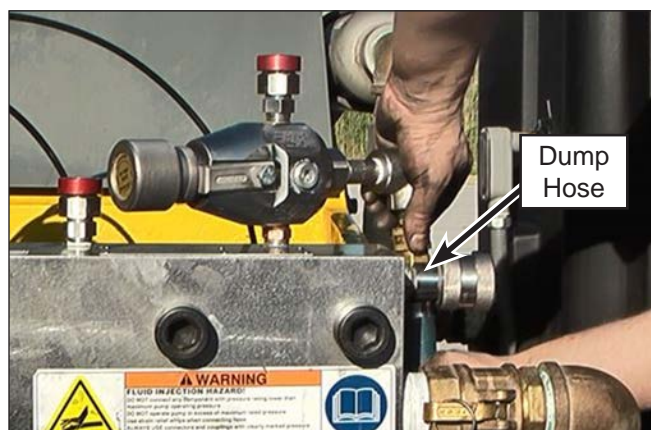

Figure 93: Dump Hose Removal.
1. Remove the dump hose (Figure 93) from the bypass valve.